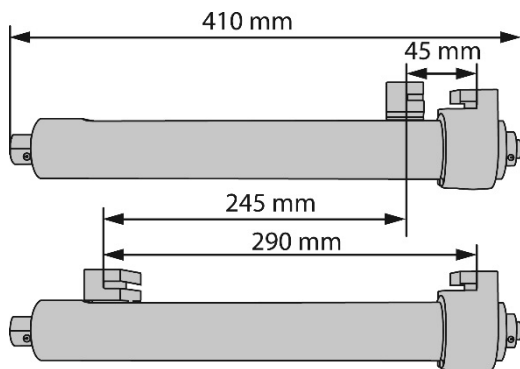

Fig. 2: Checking the Delivery.
3.1 Scope of Delivery (Fig. 2)